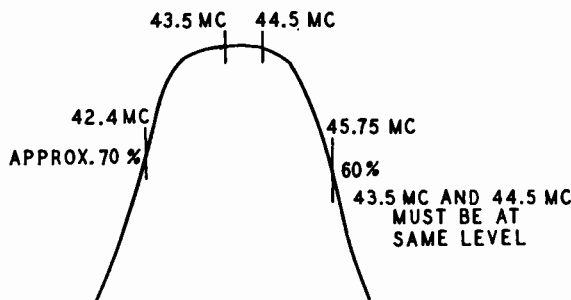

Fig. 5—Pix I-F Response From 1st Pix I-F Grid
2. With approximately -3.0V bias on AGC line (Test Point "B") connect sweeper to 1st I-F grid (Pin #1-V3.) Reduce sweeper output to compensate for additional gain of 1st stage (4.0V. P-P on oscilloscope). Adjust 1st I-F transformer primary (top) and secondary (bottom) for maximum gain and symmetry with 45.75 mc marker. (See Figure 5.)